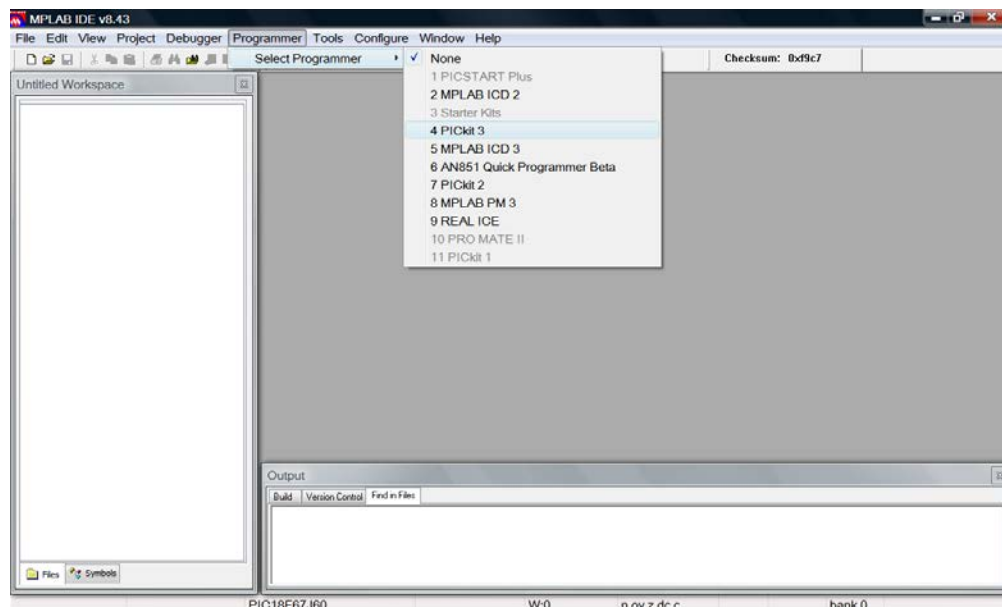

FIGURE 6-4
6.2.3 To load the PICkit 3 Programmer, select **Programmer -> Select Programmer -> PICKit 3**. See Figure 6-4.